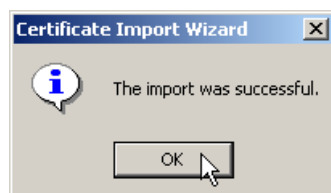

Figure 6-19 Certificate Import successful
6. You should see a message stating that the import was successful (Figure 6-19). Click **OK**.